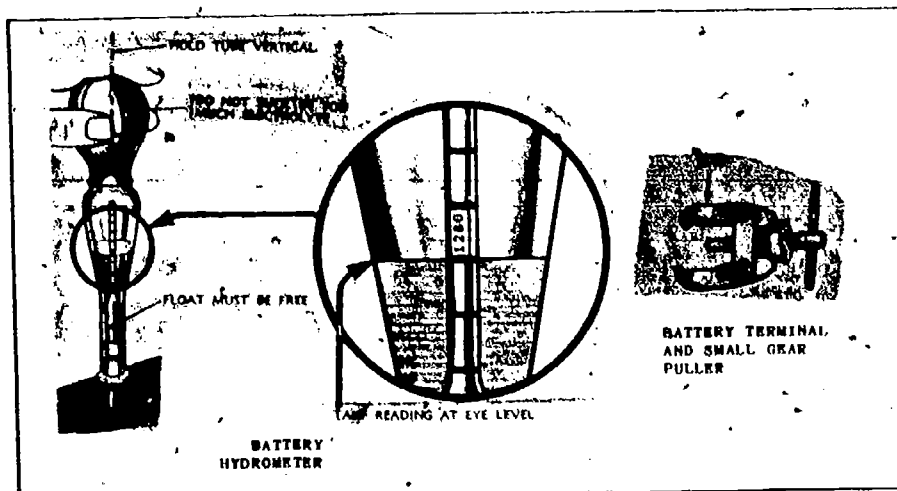

Fig 1-4. Battery service equipment.
- (4) **Battery service equipment (fig 1-4).** A small hose connected to a nonmetallic container is normally used to fill batteries with water. A battery hydrometer is used to measure the specific gravity of the liquid in the battery. A small puller is sometimes needed to remove the battery cable clamps from the battery terminals. Wire brushes and scrapers are used to clean the battery terminal and the cable clamps.